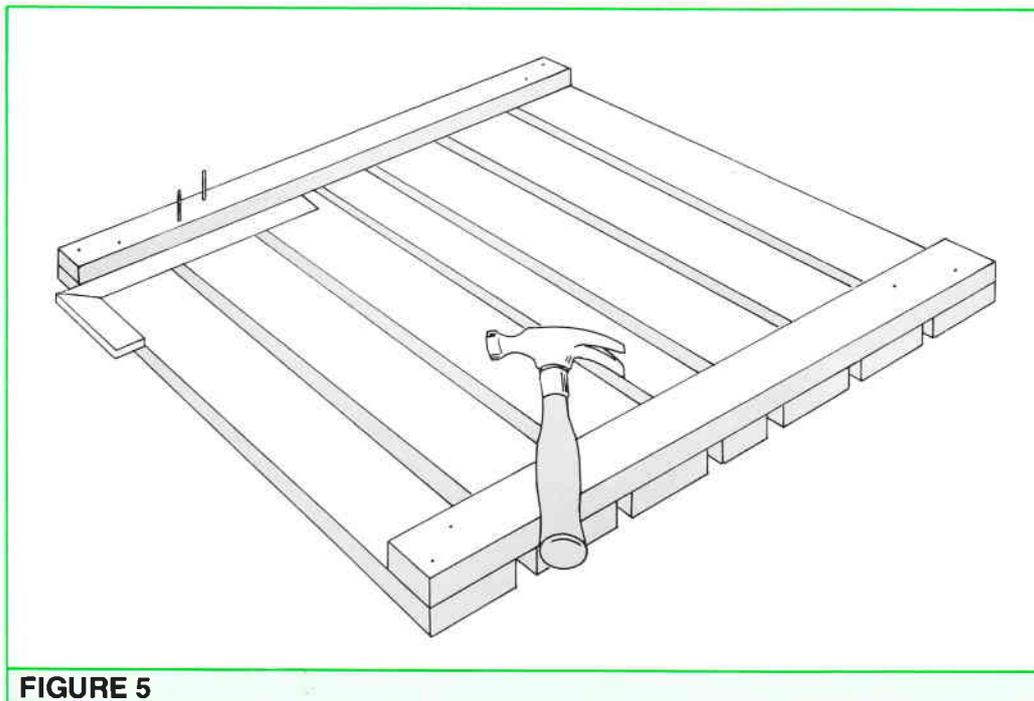

FIGURE 5
**7** To assemble the magazine shelf, lay out the six pieces **E** and the one piece **F** (in the centre) top face down and nail the two pieces **G** in position, using 30mm × 2mm nails. See Figure 5.